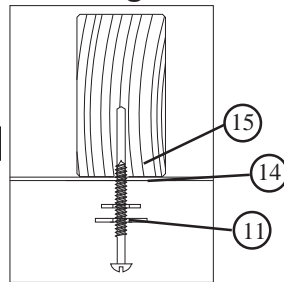

Fig. 4
If drill encounters ceiling joist, drill 3/32" pilot holes in joist for mounting with 1½" Wood Screws (11). First place a metal flat washer onto 1½" Wood Screw. Then place a Rubber Washer (15) onto Wood Screw. Insert 1½" Wood Screw through hole in plastic housing. The Rubber Washer should be against the inside for Fixture Housing when installed correctly. Tighten Screws to secure fixture. (Do not over tighten screws could damage housing). **See Fig. 4.**